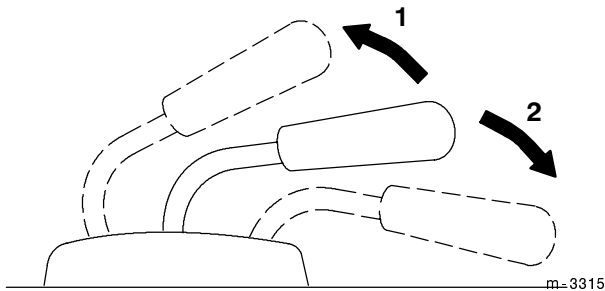

Figure 19
2. Pull the lift lever up to raise the attachment (Fig. 19).
2. Push the lift lever down to lower the attachment (Fig. 19).